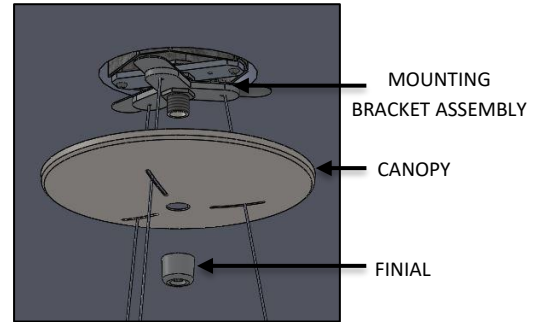

FIG. 25 – CANOPY DISASSEMBLY
11. Once the CRIQUE ASSEMBLY is secured to the AIRCRAFT CABLE (3) at the GRIPLOCK (3) Unthread the FINIAL from the MOUNTING BRACKET ASSEMBLY and lower the CANOPY (as shown below in FIG. 25).